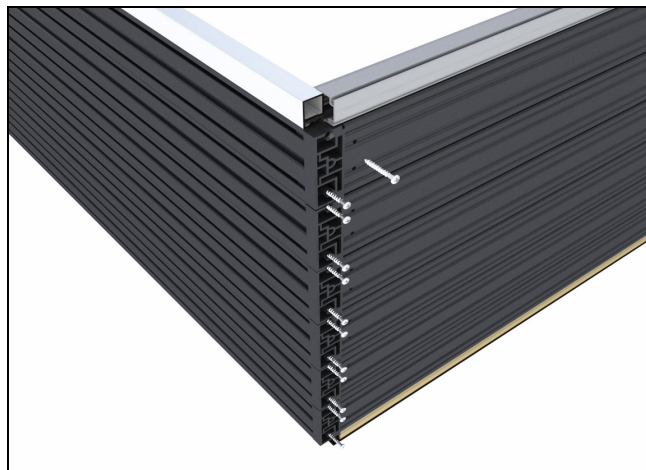

Figure 99
4. Align side jamb to sill by sliding corner keys into sill. Fasten side jamb and sill through corner keys using two #8 x 1 3/4" pan head screws per key. See figure 99.